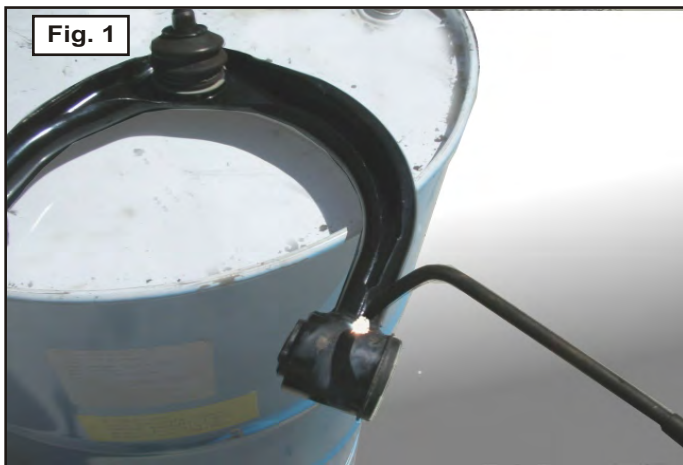
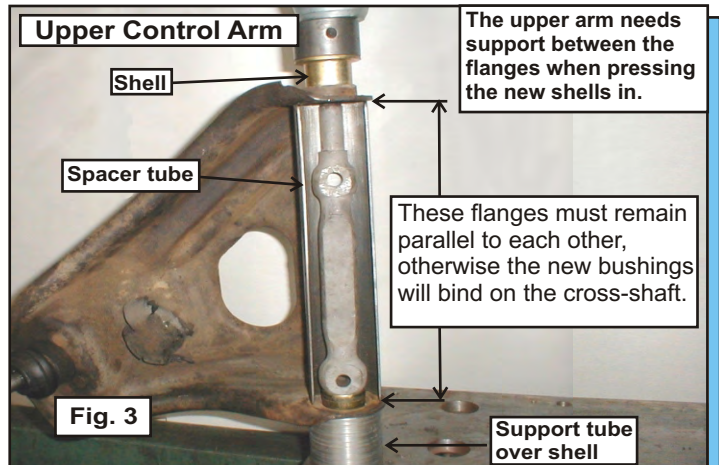
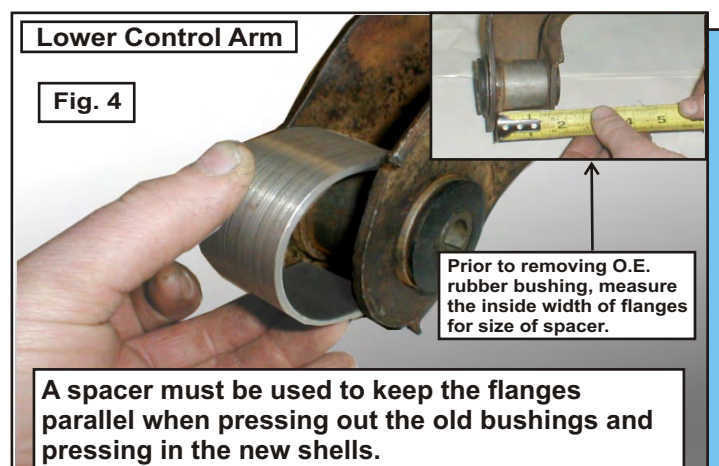

Fig. 1
Fig. 3
Fig. 4
**If your new bushing kit does not have new shells and/or sleeves, you must reuse the original shells and /or sleeves. Do not press out shells. Leave shells in arm.** To remove the old rubber from the factory shells and inner sleeves, apply light heat evenly around the outside of the control arm, (Fig 1) just enough to break the bond with the rubber. When you see light smoke coming from the sides of the bushing the bond should be broken. At no time should there be any flames coming from the rubber, if there are any flames, you need to back off with the heat. Just push the old rubber and inner metal sleeve out. Let the outer metal shells and sleeves cool off before cleaning. **If your new bushing kit has new shells and/or sleeves, you will need to press out the old shells.** Before removing old bushings from upper control arm measure from outside of shell to outside of shell and record this dimension for later use. This should be the same measurement after the new metal shells are pressed in.. (Fig.3) Note the locations of any washers on cross-shaft prior to removal. All washers, or spacers on shaft must be reused, and installed in correct location before installing new bushings. To keep from bending the flanges of the arm during installation of the new shells, use a piece of angle iron or channel cut to the size of the inside width of the flanges. Note: When a control arm shaft is used, it must be in position before installing bushings and/or new shells. Before removing old bushing from lower control arm measure outside of shell to outside of shell and record this dimension for later use. (Fig. 4) You will need to find something to put between the flanges before pressing out the old bushings and for pressing in the new shells. Use either metal channel, tubing, or thick wall PVC tubing for spacers. Grease I.D. of shell. Grease bushing and install in shell. Grease sleeve and install in bushing. Re-torque to hardware to factory specifications.